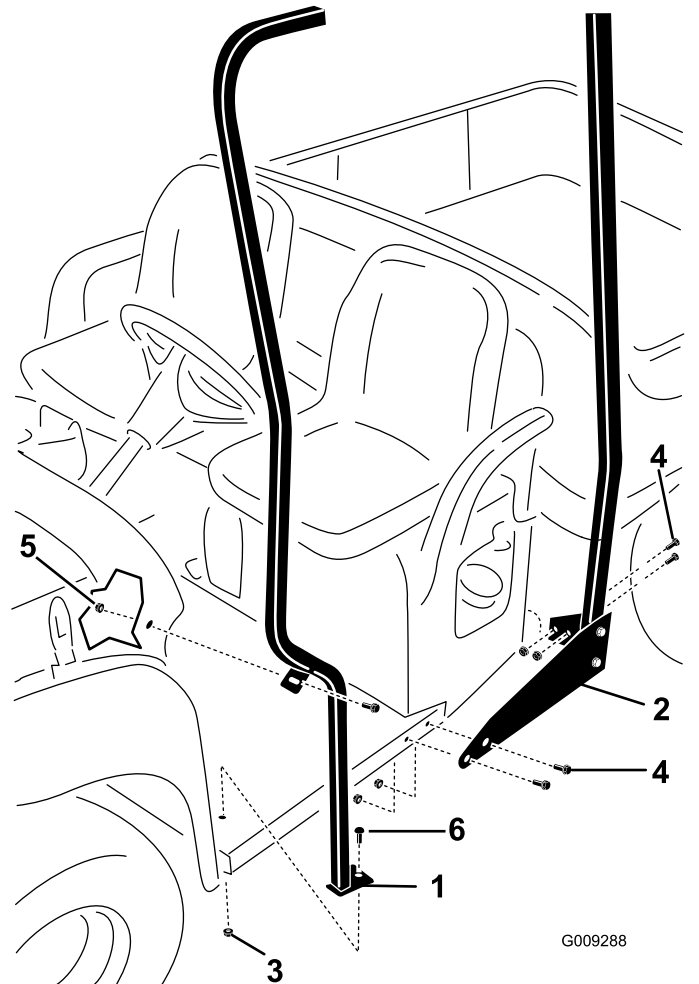

Figure 3
- B. Loosely install the rear tube and support-bracket assemblies to the machine using 8 bolts (5/16 x 1 inch) and 8 flange nuts (5/16 inch) as shown in Figure 3.
2. Install the left, front support tube to the machine as shown in Figure 3.
6. Remove the rear bolt and nut that secure the dash to the front frame support on the left side of the machine (Figure 3).
7. Loosely install the front supports to the floor of the machine (Figure 3).